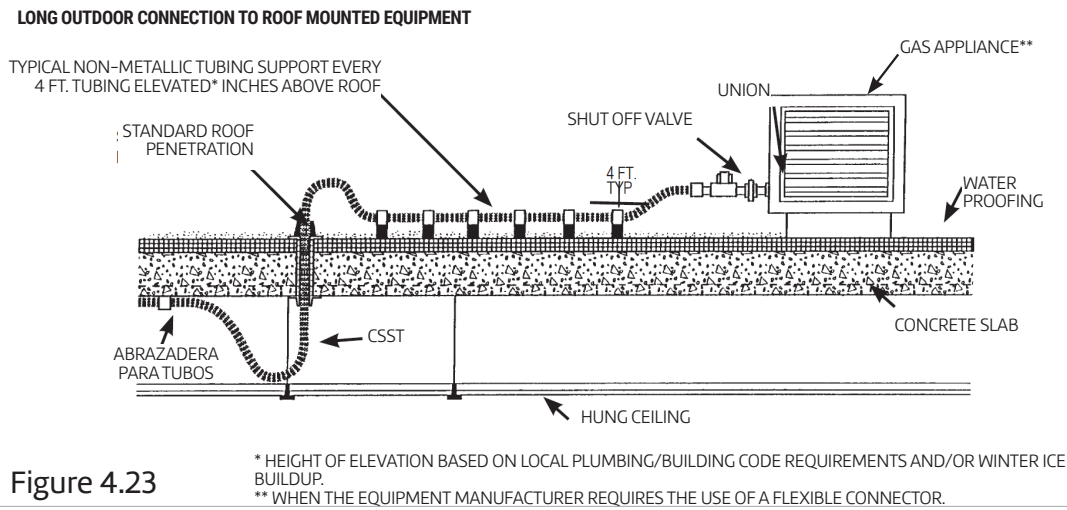

Figure 4.23
- A. **Roof Top Installations** – For a roof top appliance no additional mechanical protection of the tubing is required. Whenever possible, roof penetrations shall include an outdoor termination fitting and shall be located within 6 feet of the equipment to be connected as shown in figure 4.23. All long runs of tubing shall be supported in accordance with minimum support intervals in Table 4.3 and raised above the roof distance determined by local code/practice. WARDFlex® routed vertically up the side of a building, to the roof, shall be protected in accordance with section 4.3.6 Outdoor Installation.